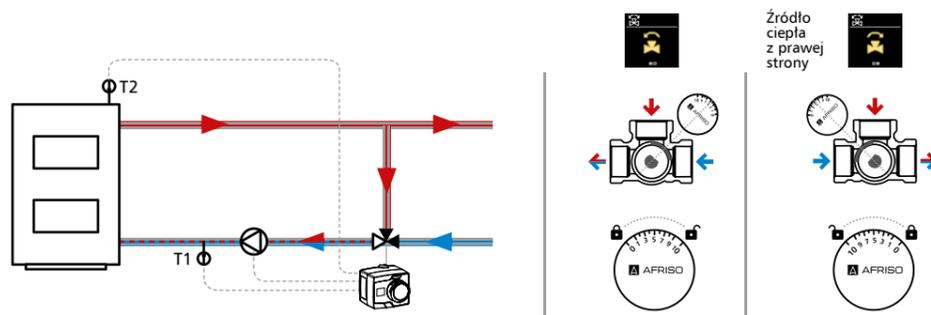
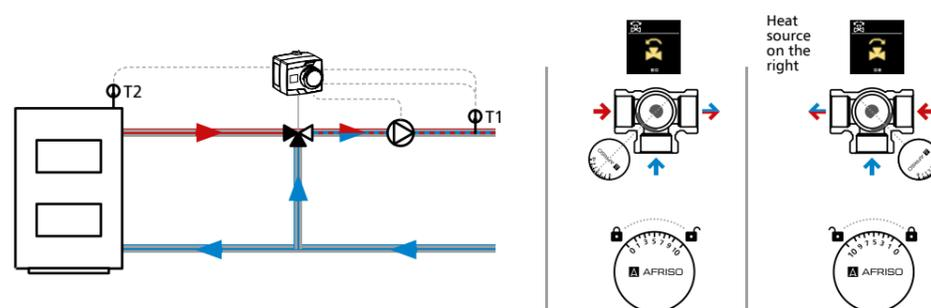

Fig. 9. Diagram with the mixing valve mounted on the return to the heat source, in order to protect the heat source against low-temperature corrosion.
Fig. 10. Diagram with the mixing valve mounted on the supply pipe to maintain a constant temperature of the medium flowing to the system.
1. The T1 and T2 temperature sensors should be mounted in accordance with the chosen diagram (Fig. 9., Fig. 10., Fig. 11.) by using the adapters included, or specially prepared sleeves.
Select the appropriate diagram in accordance with the mounting position of the mixing valve in the system. The available diagrams are: mixing valve mounted on the heat source return pipe (Fig. 9.), on the supply pipe (Fig. 10.), or on a 4-way valve (Fig. 11.).
In the last step, you need to select the right scale, either "0 to 10" or "10 to 0", corresponding to the chosen diagram (Fig. 9., Fig. 10., Fig. 11.). To change the scale, you need to lift up the plate, and put it on again facing the other side.